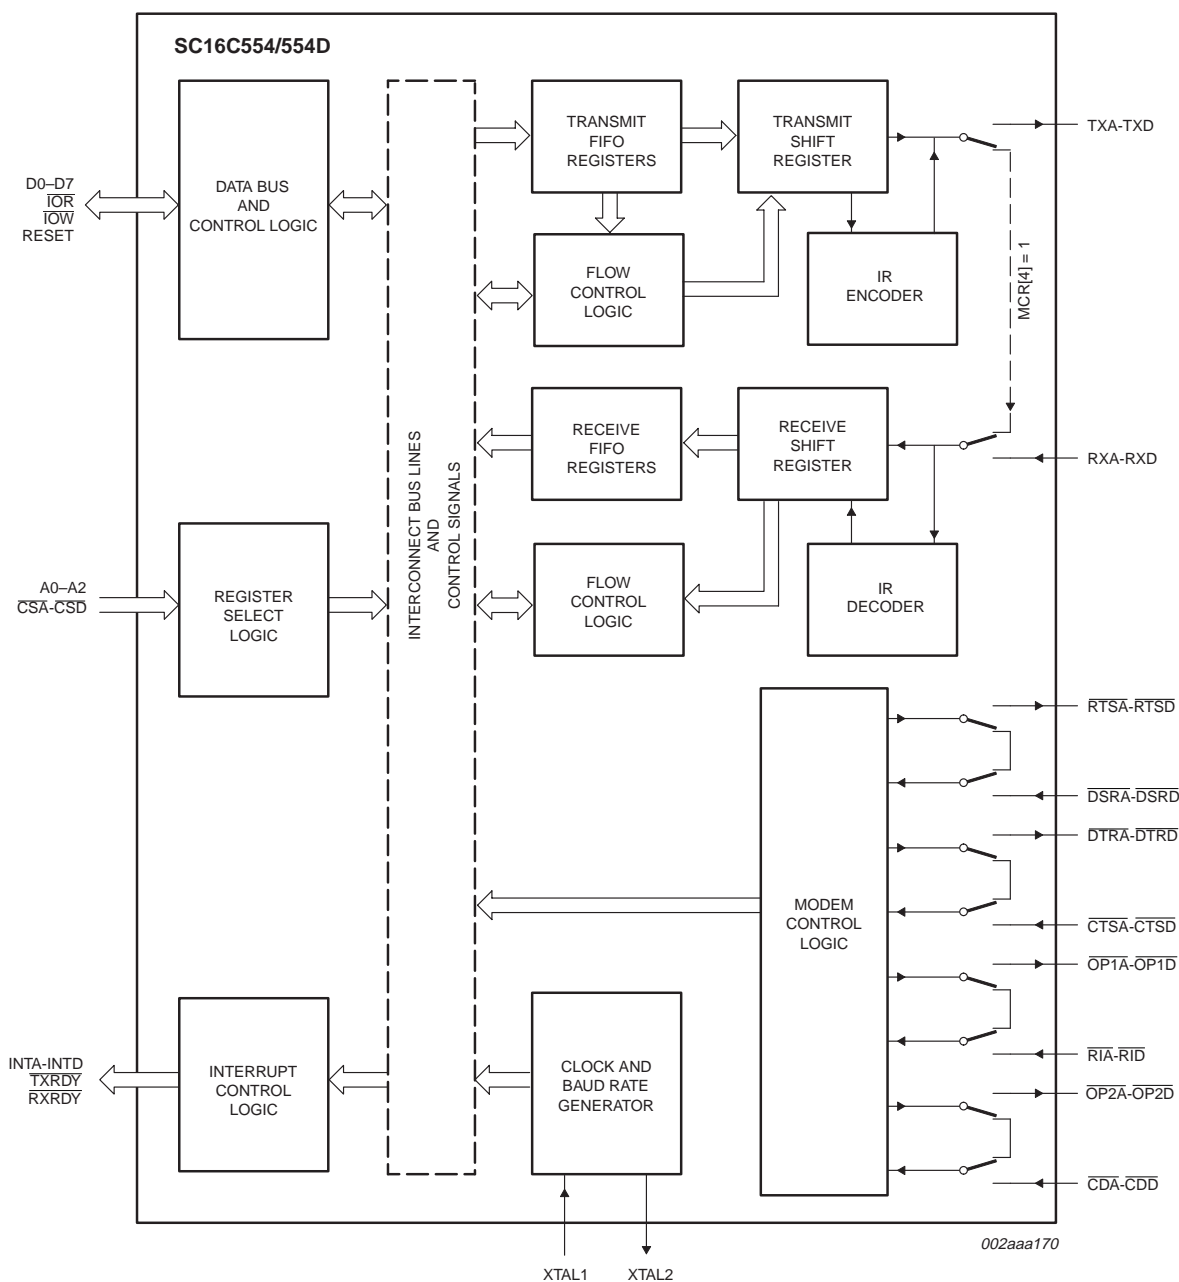

Fig 8. Internal loop-back mode diagram.
The internal loop-back capability allows on-board diagnostics. In the loop-back mode, the normal modem interface pins are disconnected and reconfigured for loop-back internally. MCR[0-3] register bits are used for controlling loop-back diagnostic testing. In the loop-back mode, $\overline{\text{OP1}}$ and $\overline{\text{OP2}}$ in the MCR register (bits 2-3) control the modem $\overline{\text{RI}}$ and $\overline{\text{CD}}$ inputs, respectively. MCR signals $\overline{\text{DTR}}$ and $\overline{\text{RTS}}$ (bits 0-1) are used to control the modem $\overline{\text{CTS}}$ and $\overline{\text{DSR}}$ inputs, respectively. The transmitter output (TX) and the receiver input (RX) are disconnected from their associated interface pins, and instead are connected together internally (see Figure 8). The $\overline{\text{CTS}}$, $\overline{\text{DSR}}$, $\overline{\text{CD}}$, and $\overline{\text{RI}}$ are disconnected from their normal modem control input pins, and instead are connected internally to $\overline{\text{DTR}}$, $\overline{\text{RTS}}$, $\overline{\text{OP1}}$ and $\overline{\text{OP2}}$. Loop-back test data is entered into the transmit holding register via the user data bus interface, D0-D7. The transmit UART serializes the data and passes the serial data to the receive UART via the internal loop-back connection. The receive UART converts the serial data back into parallel data that is then made available at the user data interface D0-D7. The user optionally compares the received data to the initial transmitted data for verifying error-free operation of the UART TX/RX circuits.